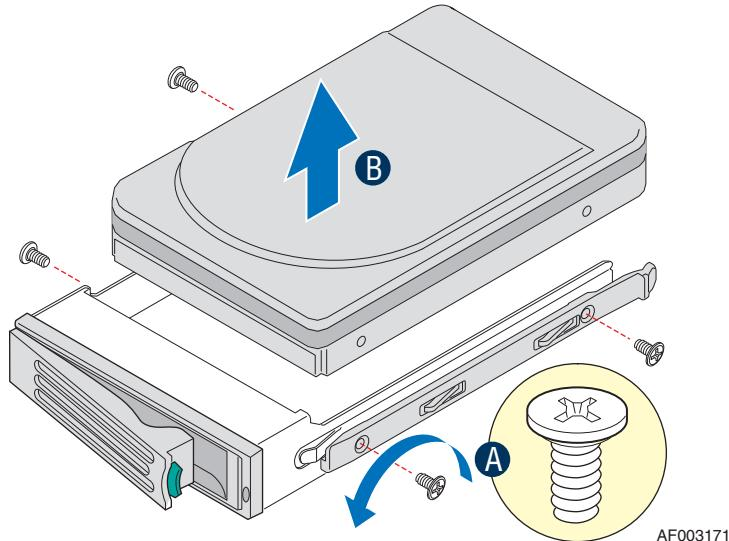

Figure 38. Removing Hard Drive from a Drive Carrier
- With a Phillips* screwdriver, remove the four screws securing the hard drive to the drive carrier (see letter "A" in Figure 38). Lift the hard drive from the carrier (see letter "B" in Figure 38) and store the hard drive in an anti-static container or bag.